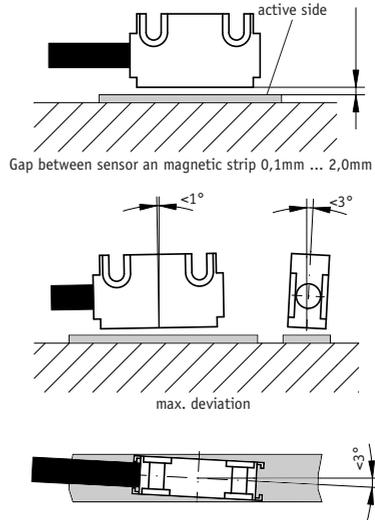

Fig. 7: Mounting of sensor Typ B or L
- Tolerance for the gap between magnetic sensor and magnetic strip not observed over the **total** travel distance. Sensor touches strip (see fig. 7 and 8).
- Sensor's active side not mounted towards the magnetic strip (see fig. 7).